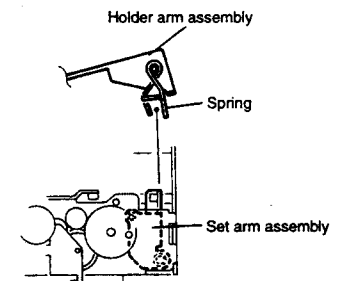

Fig. 26
6. Install the spring attached to the holder arm assembly shaft over the set arm assembly as shown in Fig. 26.